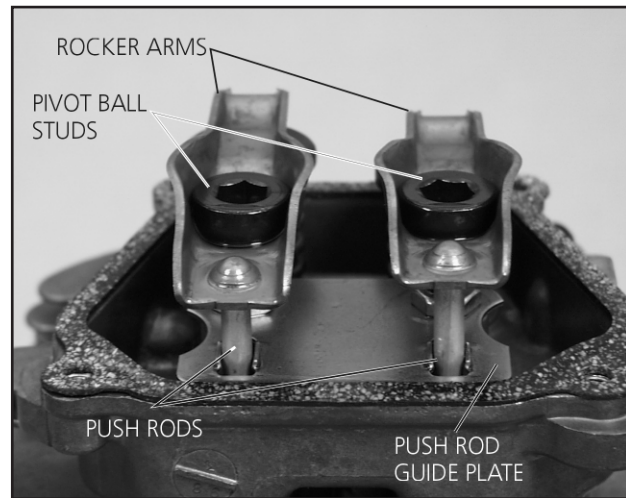

Figure 9.3 — Rocker Arms, Pivot Ball Studs, Push Rods and Push Rod Plate
3. Remove the push rods (see Figure 9.3).